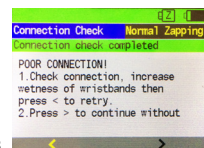

Fig. 8
6. In case of poor connection, the device will display the message in Fig. 8.